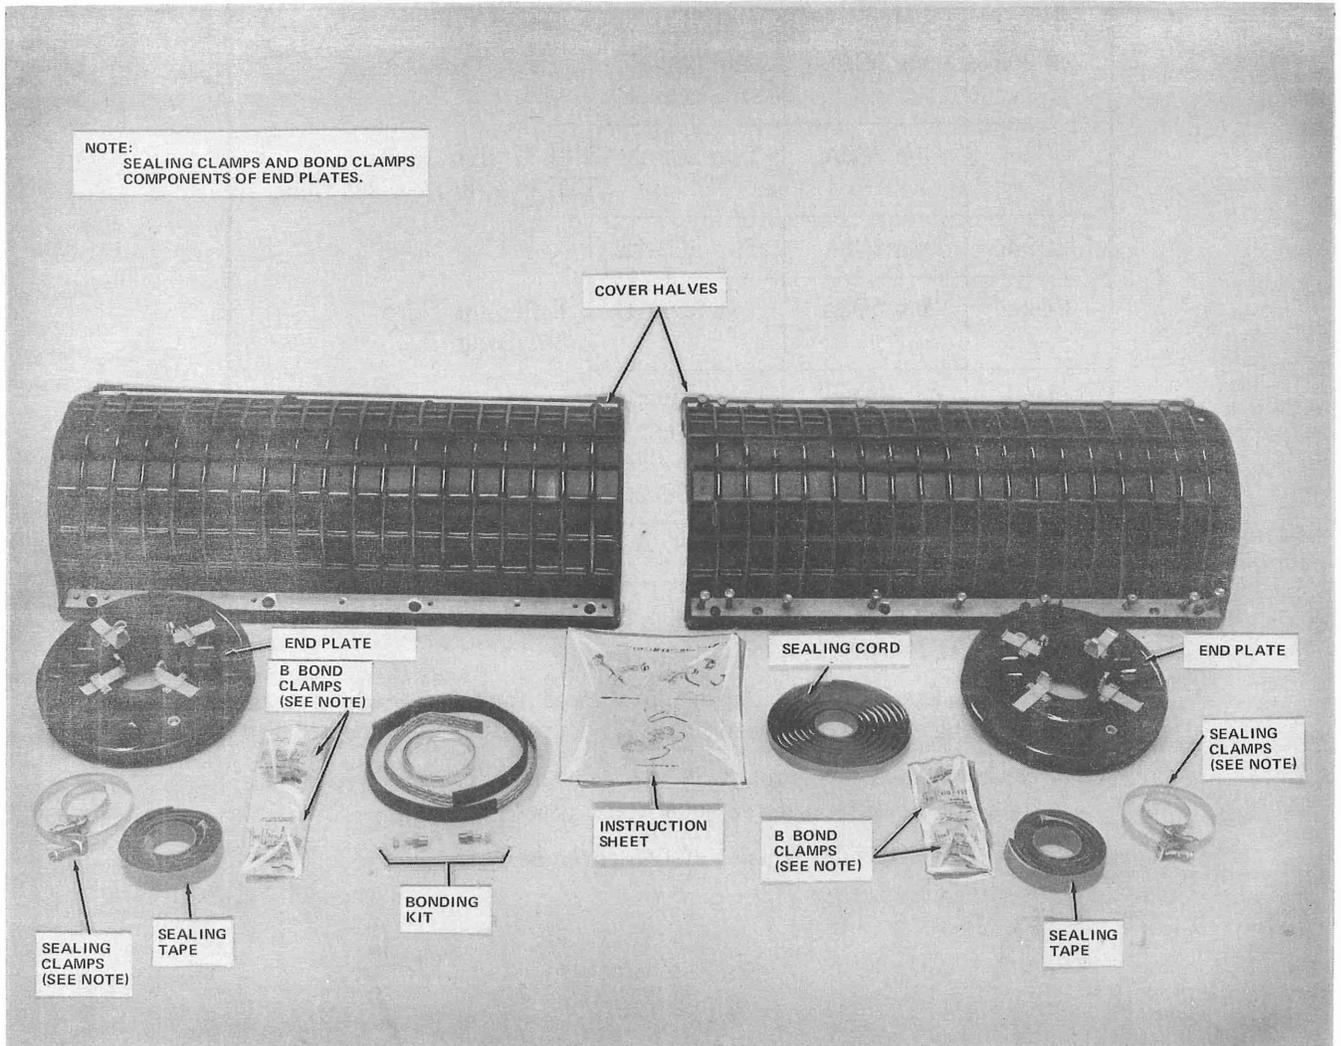

Fig. 1—2-Type Closure
2.01 The 2-type closure is illustrated in Fig. 1. It can be obtained as a complete package as listed in Table F (except 2B type) or by component ordering as outlined in paragraph 2.03.